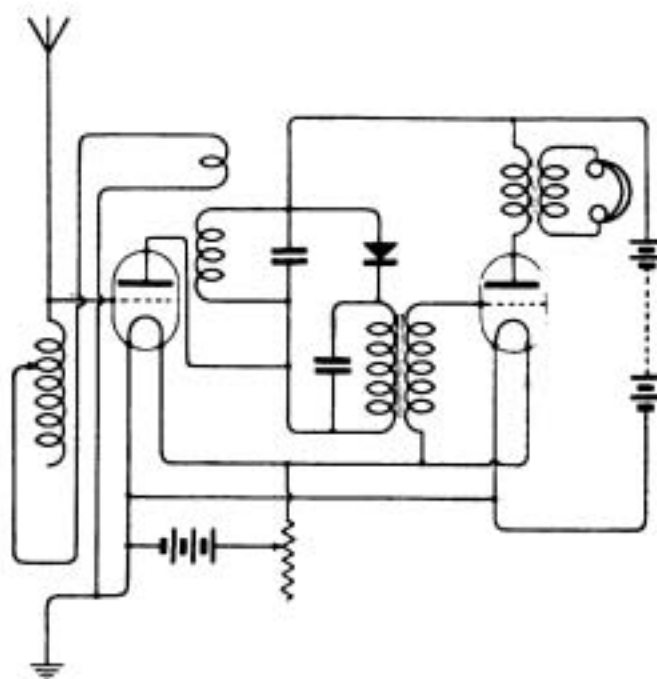

Fig. 11.
W.E.R. (Scarborough).—(1) Rearrange the circuit as in Fig. 11. A circuit of this type will need careful handling to avoid radiation during reception.